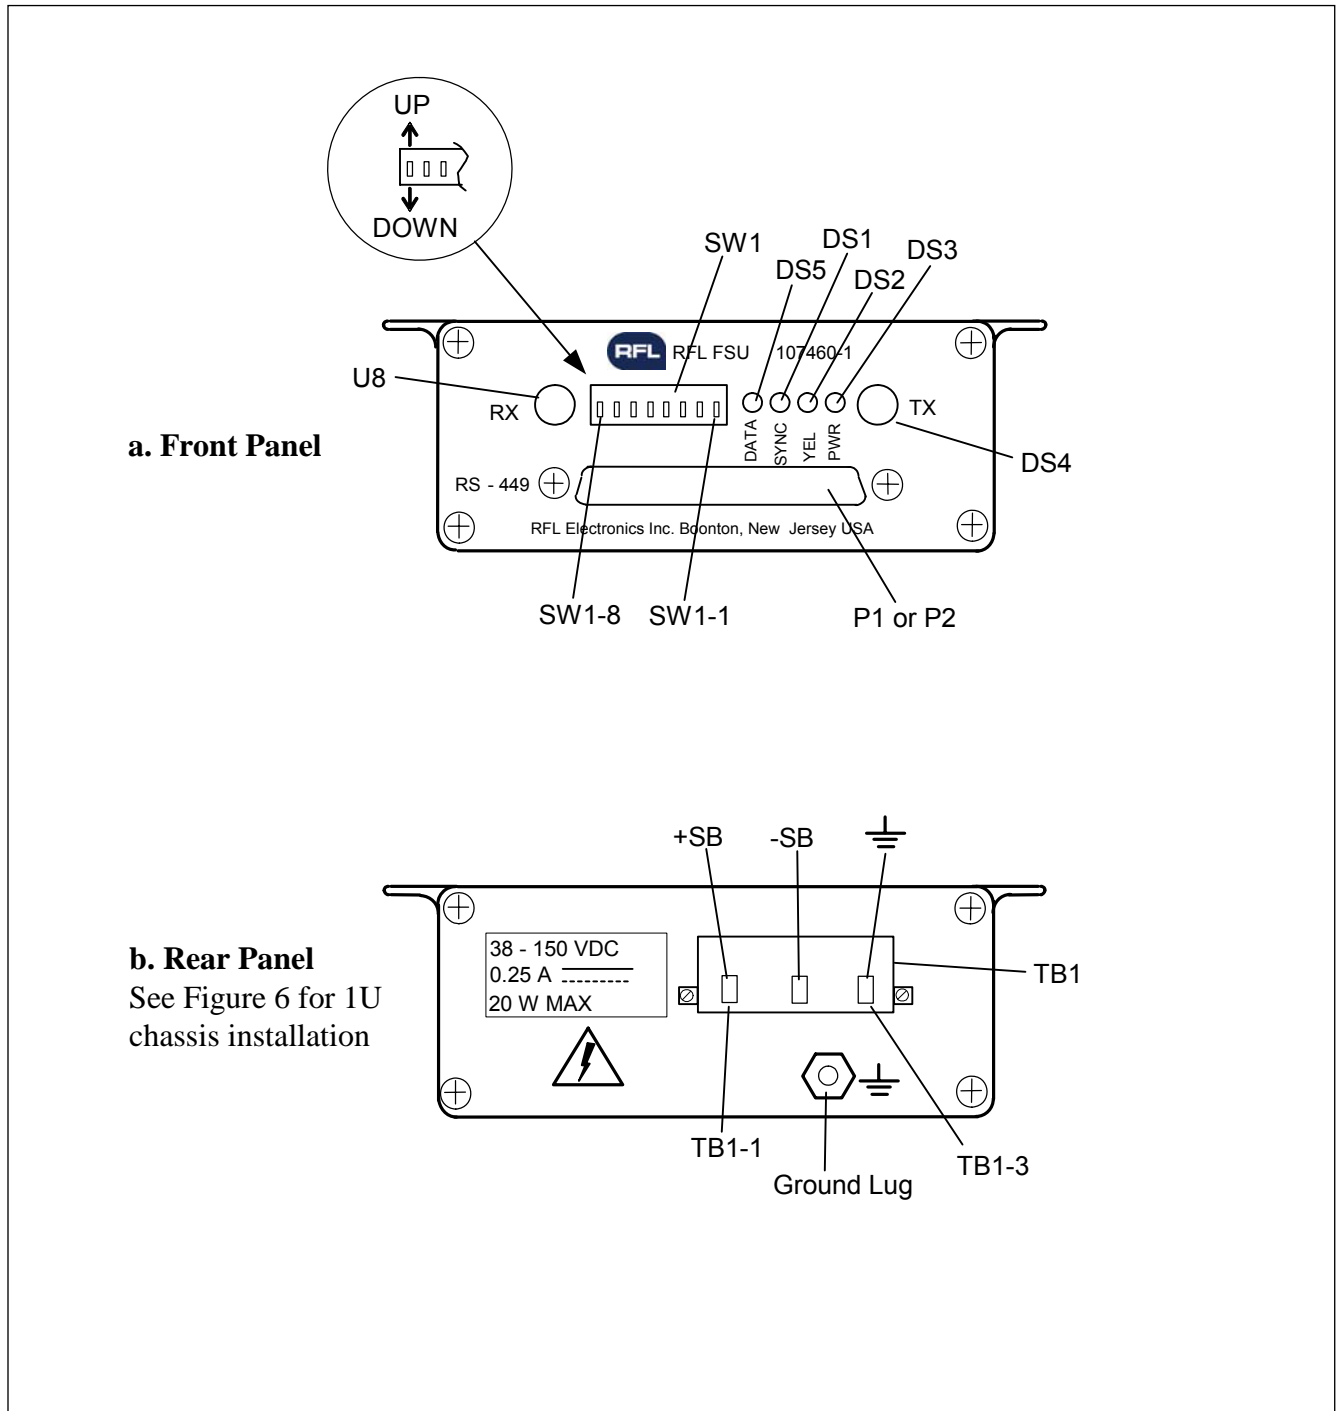
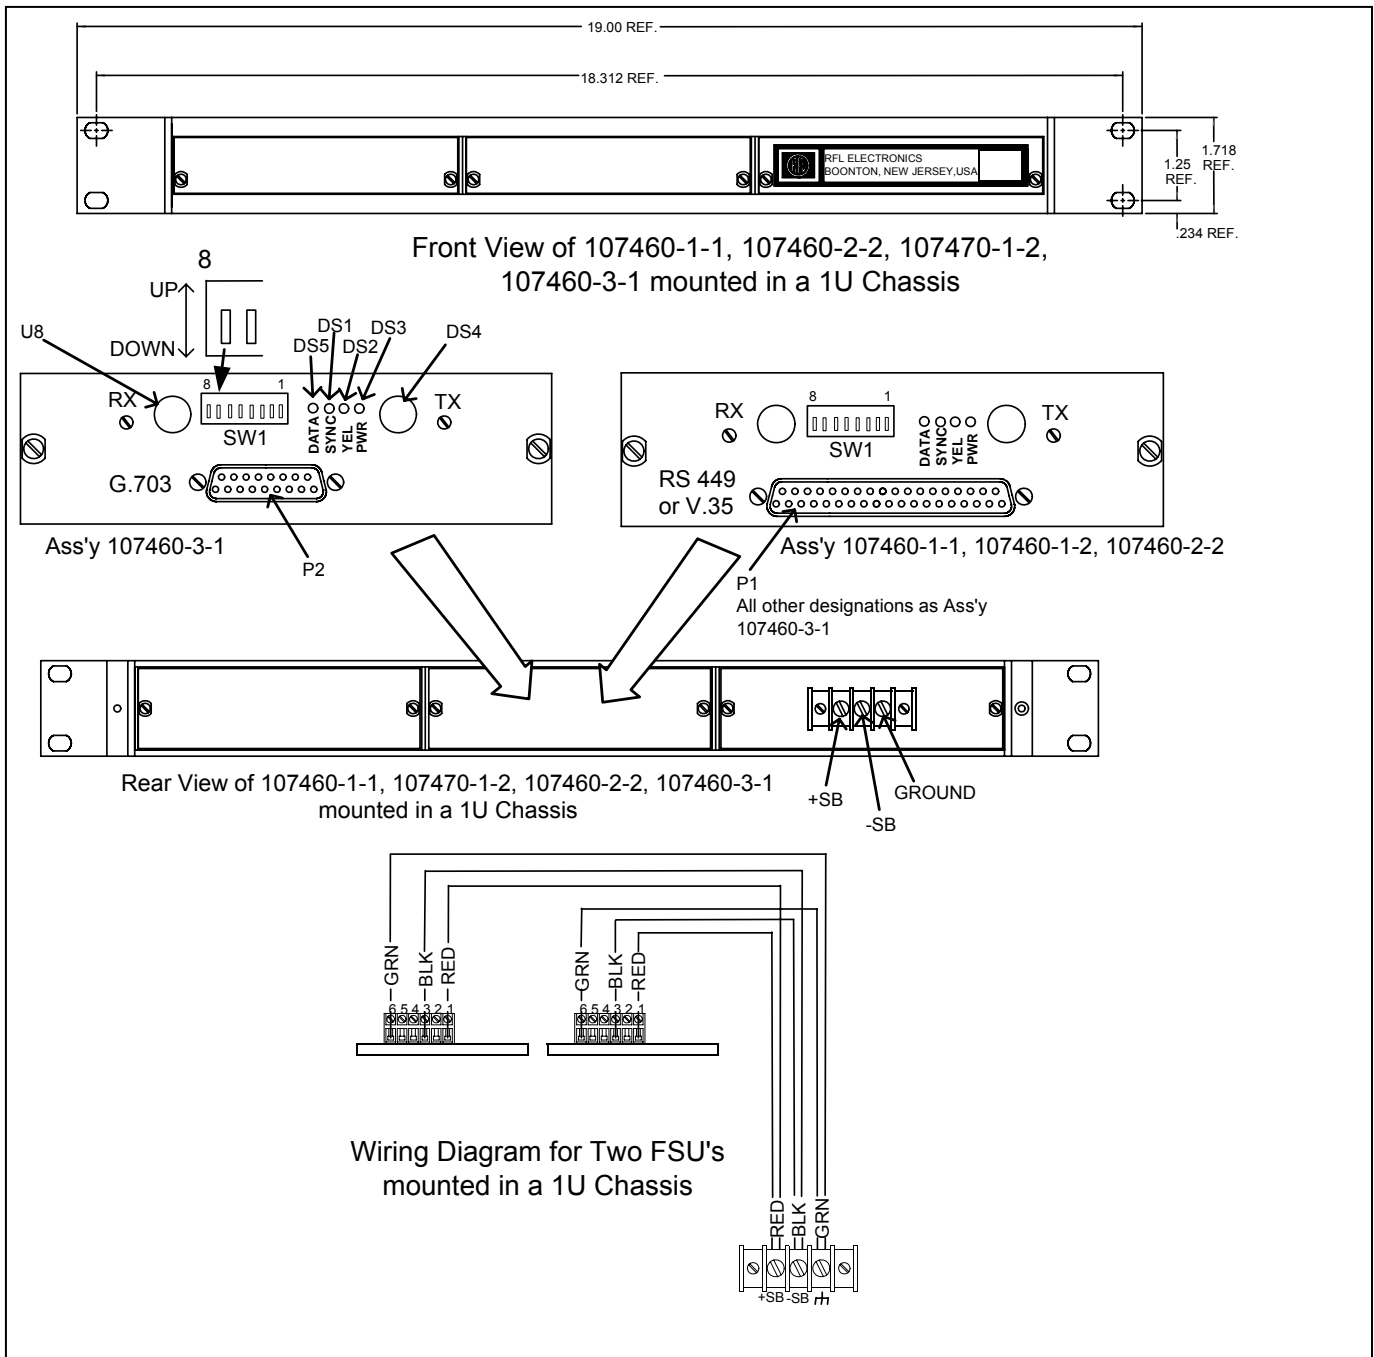
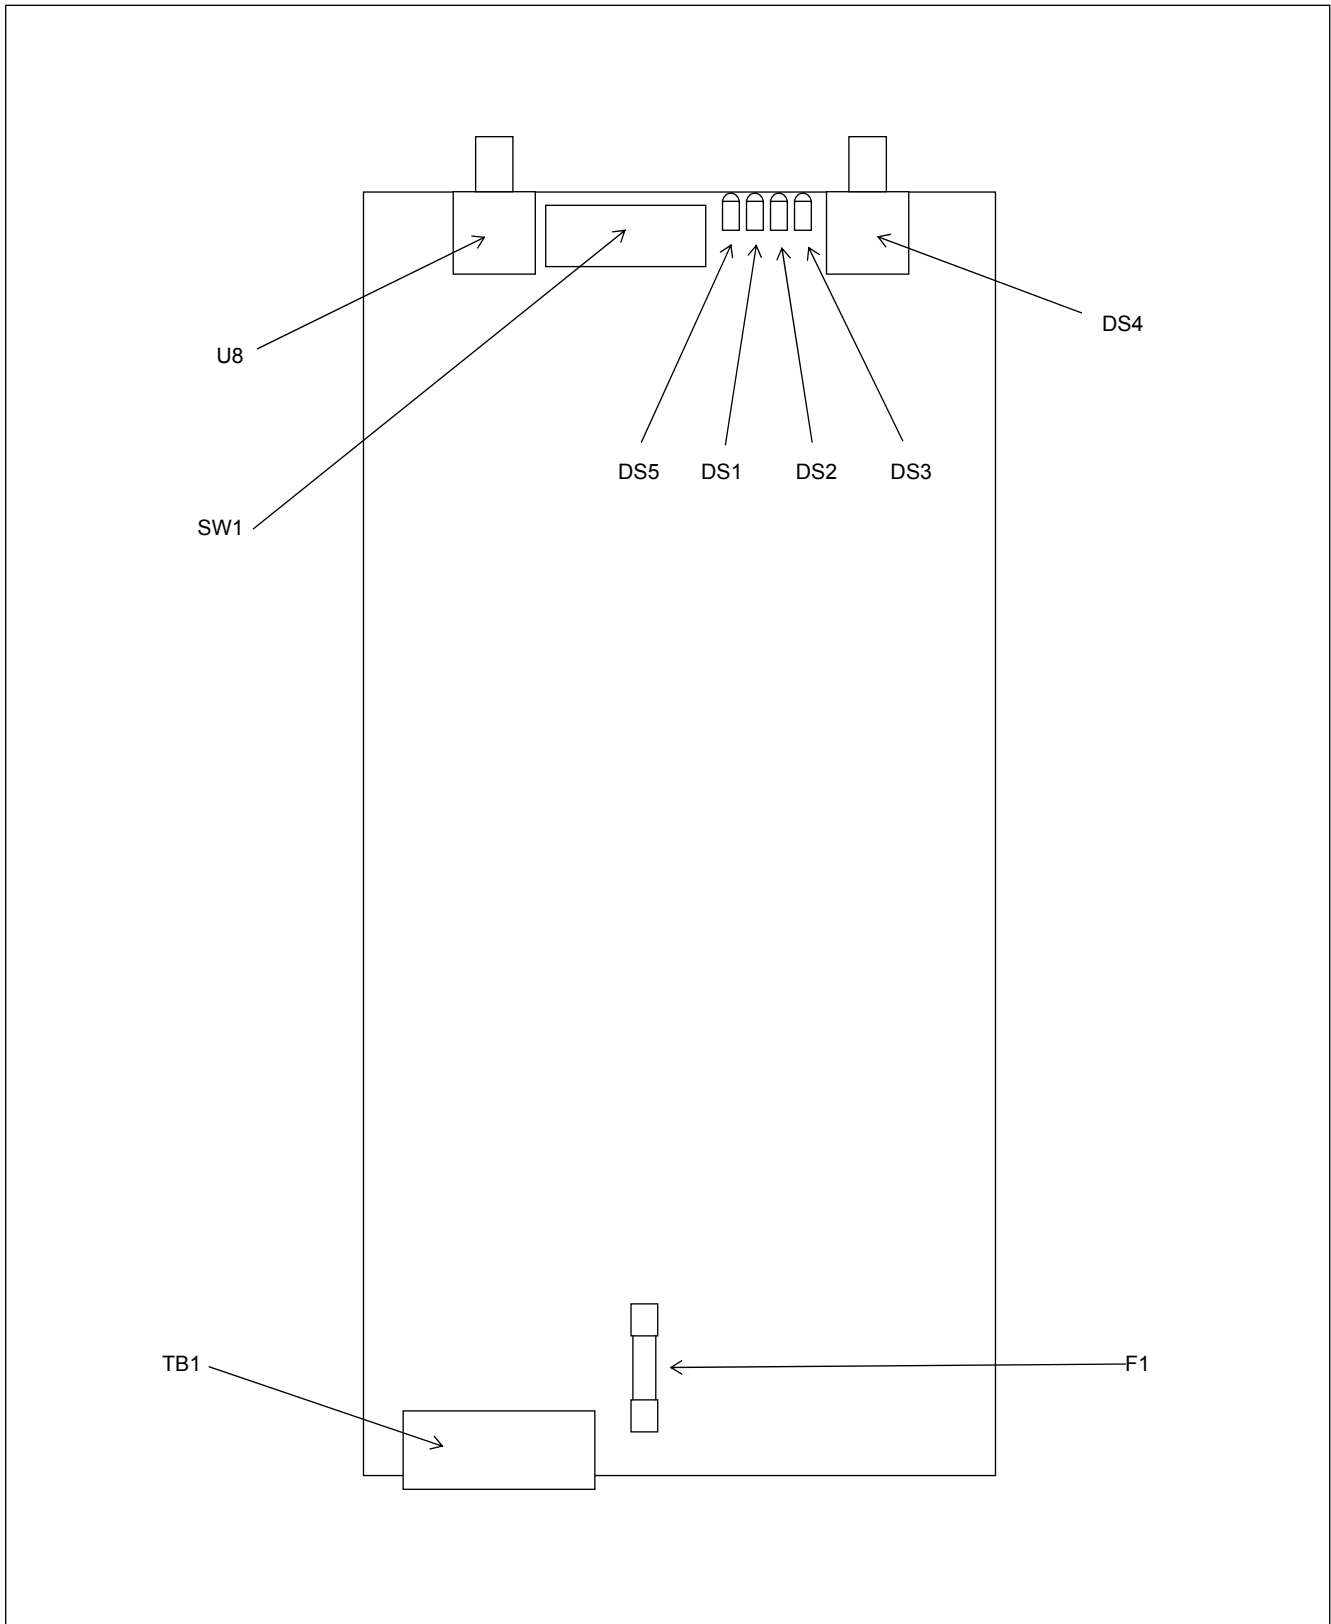

Figure 5. Fiber Service Unit, front and rear panel controls and indicators (107460-1 to 107460-4)
Figure 6. Fiber Service Unit, mounted in a 1U Chassis (107460-1-1, 107460-1-2, 107460-1-3)
Figure 7. Fiber Service Unit ECB No. 107463 (Board A), controls and indicators (107460-1 to 107460-4, 107460-1-1, 107460-1-2, 107460-3-1)
4. Connect input power to the following terminals on the rear-panel terminal block connector TB1, as shown in Figure 5, see Figure 6 and 9 for 1U chassis installation.
Note: The FSU unit is orientated differently in a 1U chassis; the connections are the same (See Fig. 6 and 9)
The RFL FSU (107460-1 to 107460-4) has user controls and indicators as shown in Figures 5 and 7. Figure 5 shows the location of all controls, indicators and connectors on the front and rear panels of the FSU module. Figure 7 shows the location of controls and indicators on ECB number 107463. The function of all controls and indicators are described in Table 4.
The RFL FSU units 107460-1-1, 107460-1-2, 107460-3-1 are identical to the previous assemblies, however they have been modified to fit into a 1U Chassis. As shown below, the unit mounts from the rear with all controls, indicators and connections on the rear panel. Figure 7 shows the location of controls and indicators on the ECB number 107463. The function of all controls and indicators are described in Table 4.